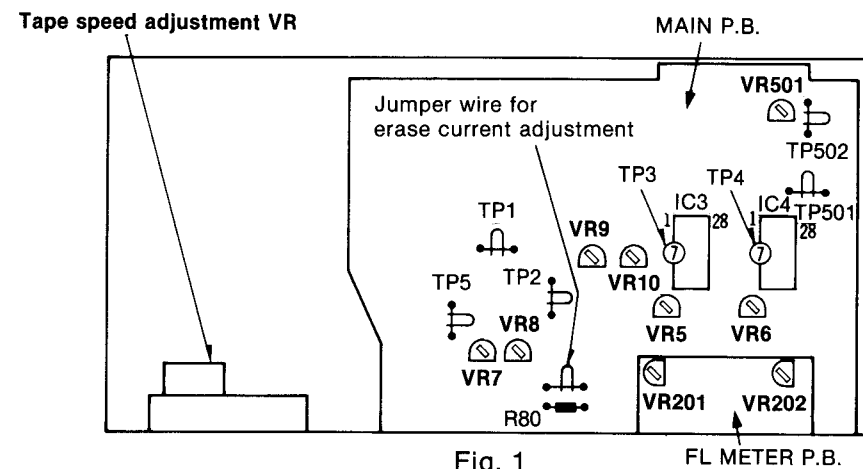

Fig. 1
- If measured value is not within the standard value, adjust it by using the tape speed adjustment VR shown in Fig. 1.
1. If the measured value is not within standard the adjust VR5 (L-CH) or VR6 (R-CH) (See fig. 1).